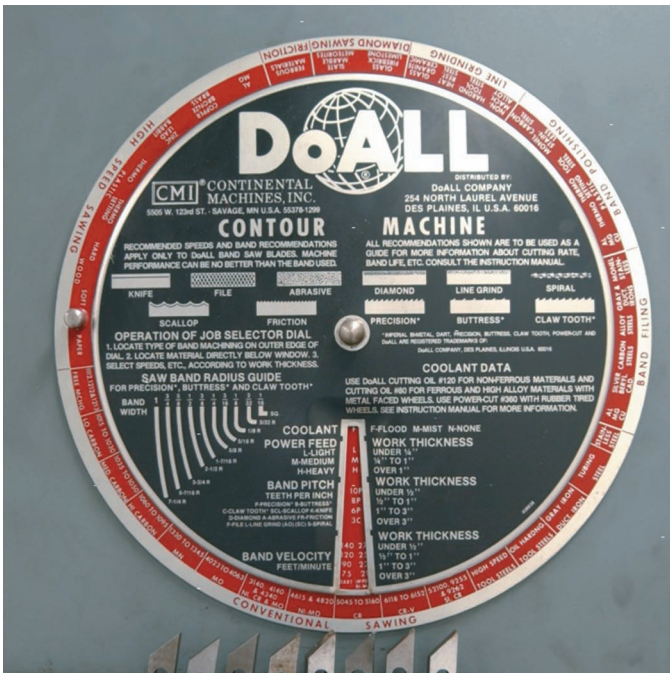

Figure 5-34 A metal plate attached to this vertical band saw shows the correct blade speed for various materials.
Correct blade speed can be obtained from a chart like the one shown in Fig. 5-34 as the job selector dial. To use a rotating selector such as this, place the material in the window then read the speed in the index. If there is no speed chart, refer to any comprehensive machinist reference book such as *Machinist’s Ready Reference*®. It will list blade speed for sawing a given material in feet per minute for materials (generally under the topic cutting speeds).
2. Does your saw have a speed selection plate or job selector dial, similar to the one in Fig. 5-34?